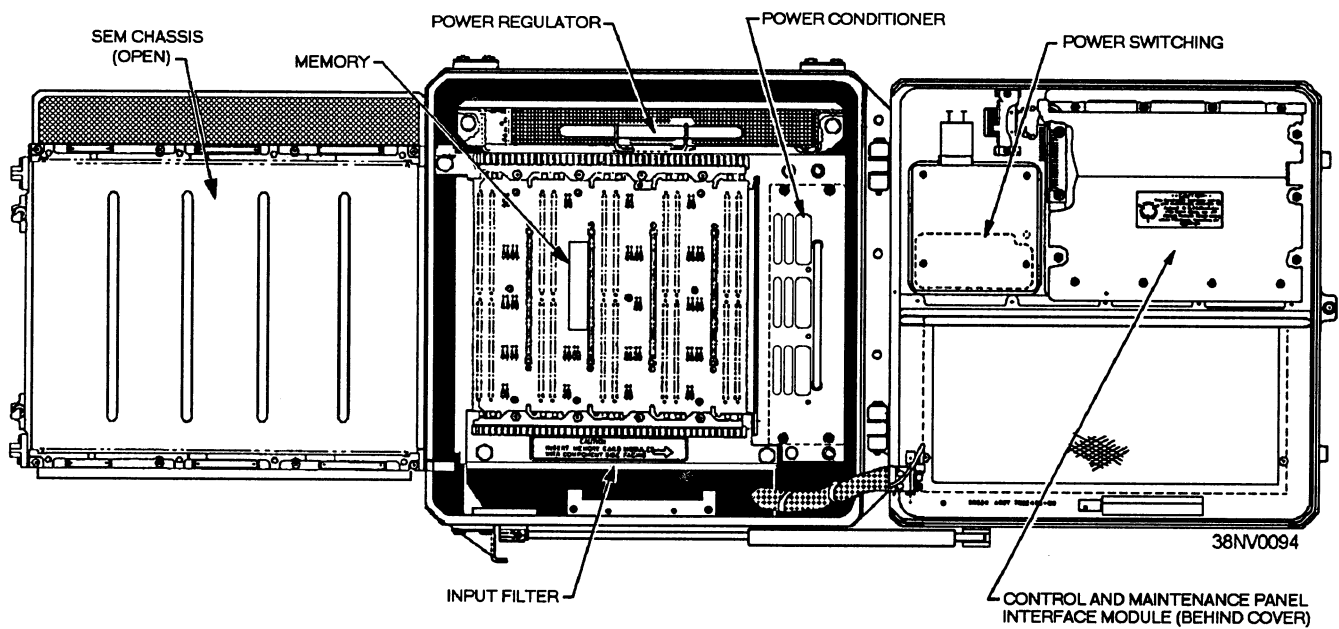

Figure 2-6.—Example of a chassis used in a minicomputer.
**CHASSIS OR ASSEMBLY.**— Chassis or assemblies usually are door mounted or slide mounted. Computers that use chassis or assemblies may contain one or more chassis or assemblies for the whole system. For example, one chassis may be dedicated only for memory, one for the power supply, and a third chassis or assembly for the rest of the computer (the CPU and the I/O). One to several subassemblies or printed circuit boards (pcb’s) may comprise the CPU, I/O, or memory. Figure 2-6 is an illustration of a chassis used in a minicomputer.